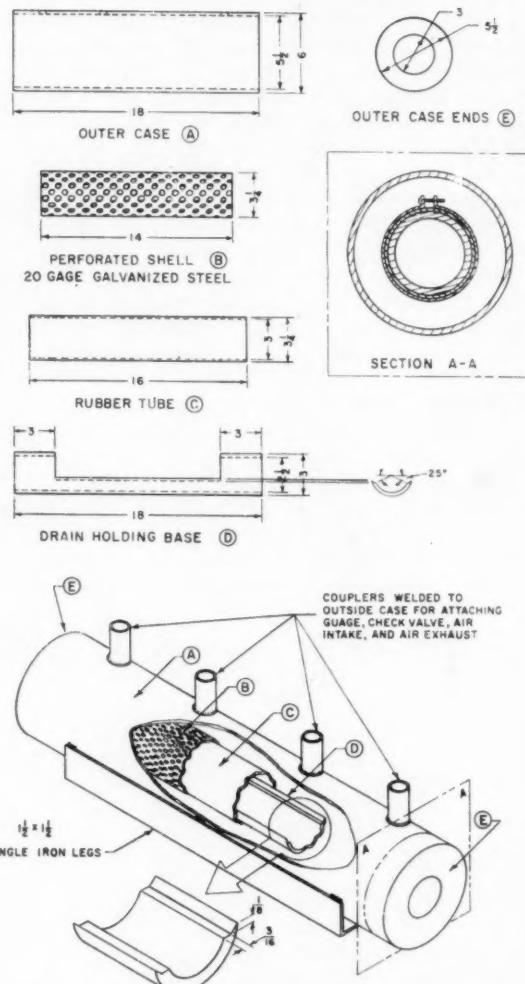

Fig. 1. Test chamber for flexible drain lines
A pneumatic testing chamber (Fig. 1) was developed to evaluate the resistance of various flexible liners to deformation under pressure similar to those exerted by a soil. In construction the upper portion was removed from a section of pipe (D) and a 3-in. diameter gummed rubber tube (C) was slipped over the pipe and clamped at both ends. A perforated sheet metal pipe (B) was placed tightly around the rubber tubing to support the tube against movement outward (passive resistance). This assembly was then placed inside an airtight chamber (A) with both ends of the smaller pipe exposed for inserting different liners.